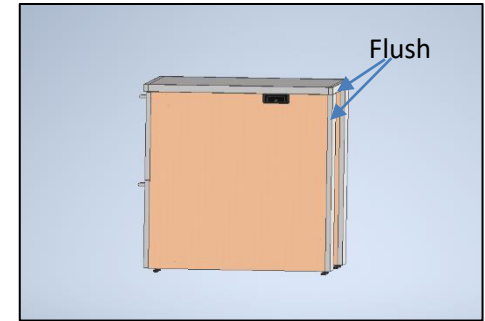

Figure 2
1. Lay top panel on pedestals or end panels. Panel should be centered horizontally and overhanging 3/16" over the front (Figure 2)